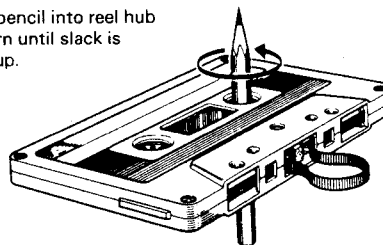

Fig. 5
**Loose tape** – To prevent tape jams, inspect the cassette for loose tape before putting the cassette into your deck. Wind up loose tape using a pencil as shown in Figure 5.